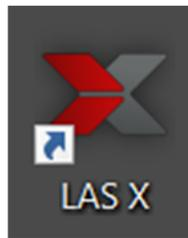

Figure 3
4. Launch the **LAS X** software. See Figure: 3.
3. Choose the color wheel option on the **Front Panel** (second icon on the left). See Figure: 3.